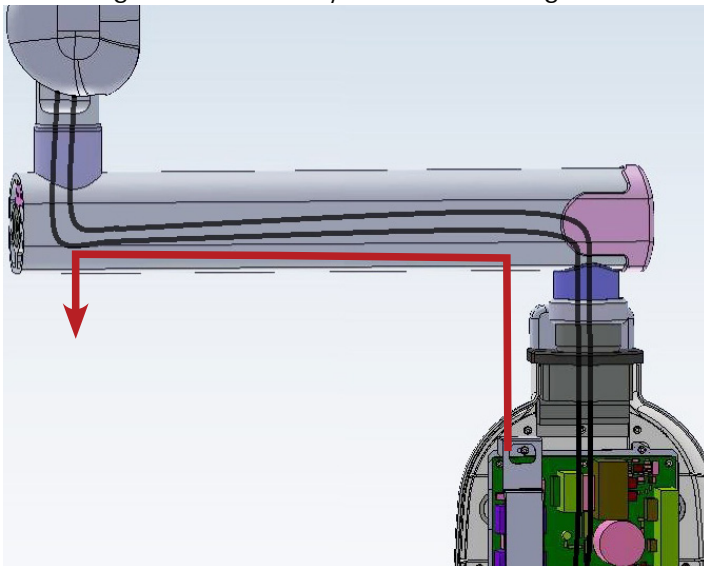

Figure 53
- Pull out the cables from the straight-arm and take it out through the bottom side hole at the free end of the straight arm as shown in Figure 53 .